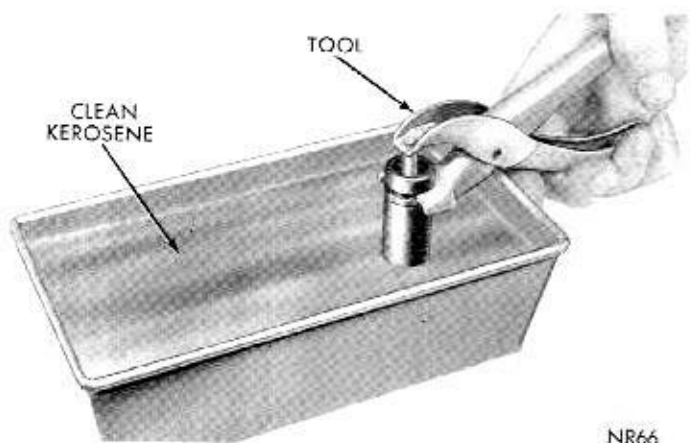

Fig. 18—Testing Tappet Using Tool C-3160
(1) Fill a pan with clean kerosene.
(2) Remove cap from plunger and plunger from tappet body.
(3) Fill tappet body with kerosene and install plunger.
(4) Unseat check valve with a brass rod to permit complete installation of plunger. Replace cap.
(5) Hold tappet in an upright position and insert lower jaw of pliers, Tool C-3160, in the groove of tappet body (Fig. 18).
(6) Engage jaw of pliers with top of tappet plunger. Test leakdown by compressing the pliers. If plunger collapses almost instantly as pressure is applied, disassemble tappet, clean and test again (Fig. 18).
(7) If tappet still does not operate satisfactorily after cleaning, install a new tappet assembly.